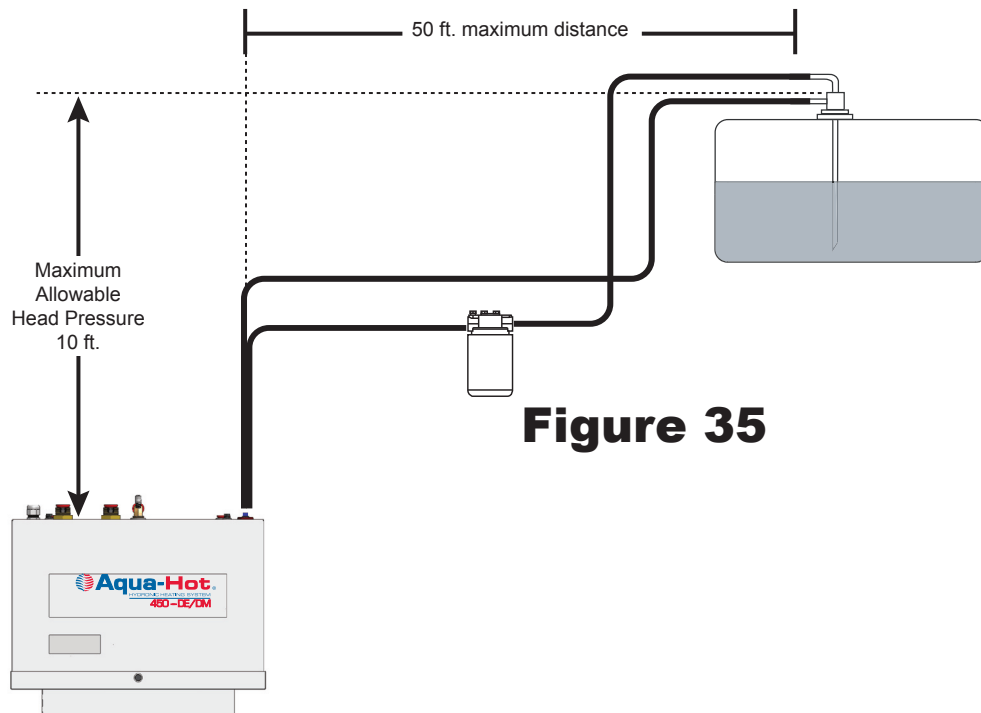

Figure 35
Fuel head pressure should not exceed 10 feet. Reference Figure 35.
The combined length of the inlet and outlet fuel lines should not exceed 100 feet in total length. Reference Figures 35 and 36.
7. Cut the fuel line at the fuel filter mounting location and connect the fuel lines as illustrated in Figures 35 and 36.